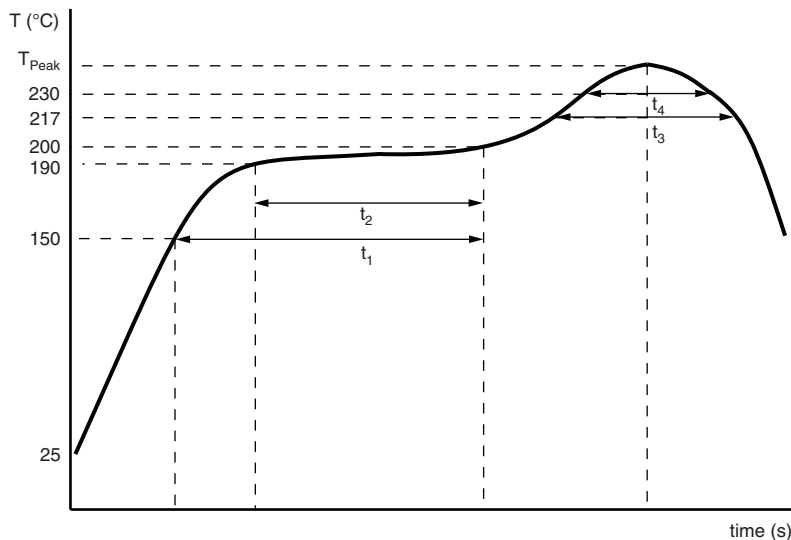

Fig. 5 - Maximum temperature load during reflow soldering
For maximum conditions refer to Fig. 4 or Fig. 5.
(2) Advanced reflow soldering profile, according to JEDEC J-STD-020, see Fig. 5 and Table 5